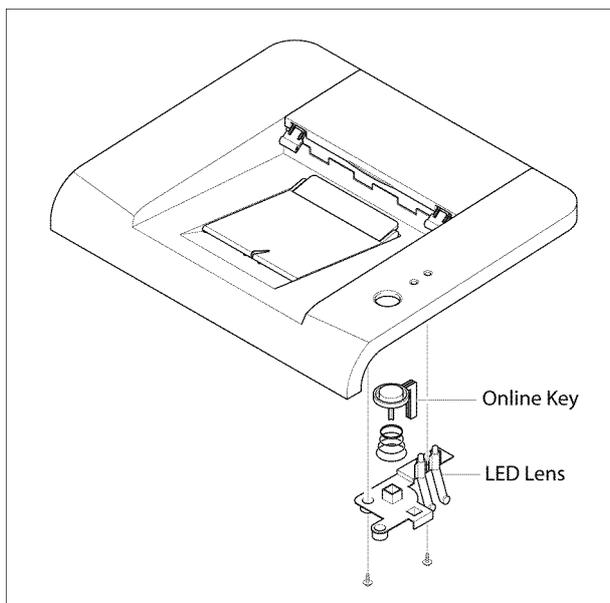

Figure 3
6. Remove 2 screws. Remove the LED lens and online key, Figure 3.